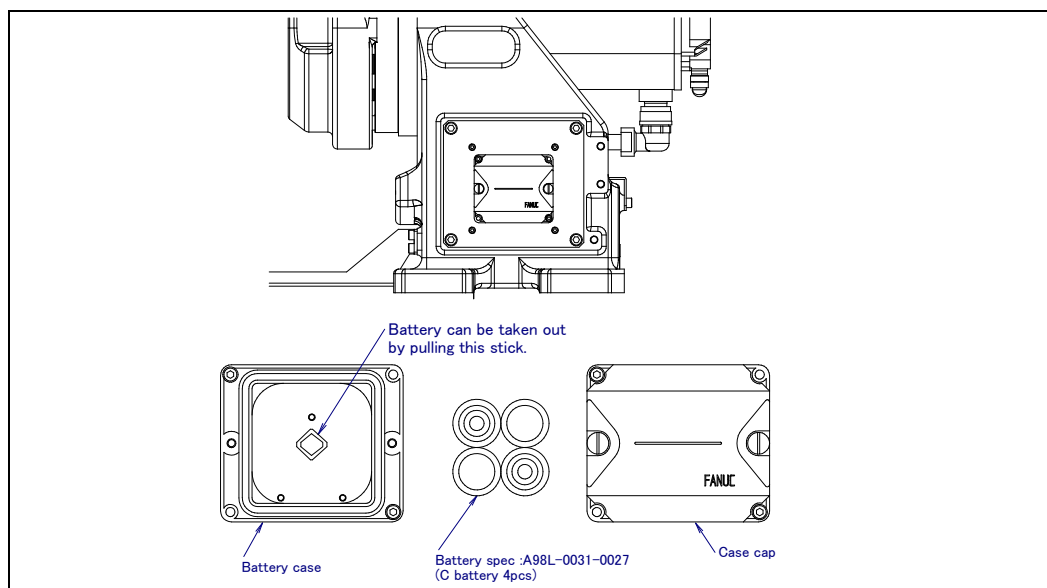

Fig. 7.3.1 Replacing the battery
- 2 Remove the battery case cap. (Fig. 7.3.1) If it cannot be removed, tap it on its side with a plastic hammer to loosen the cap before you remove it.